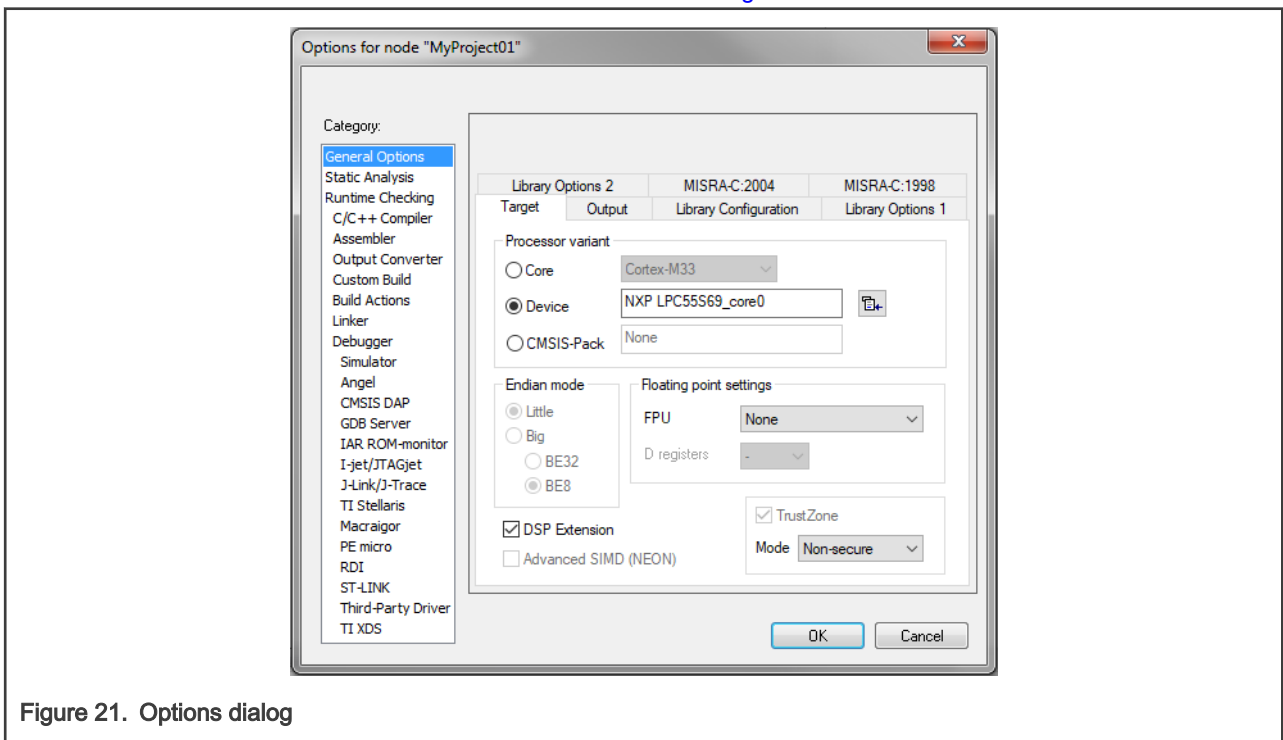

Figure 21. Options dialog
6. In the Target tab, select the Device option, and click the button next to the dialog to select the MCU. In this example, select NXP > LPC55S69 > NXP LPC55S69\_core0. Select None in the FPU option. The DSP instructions group is required please check the DSP Extensions checkbox if not checked. Click OK. See Figure 21.